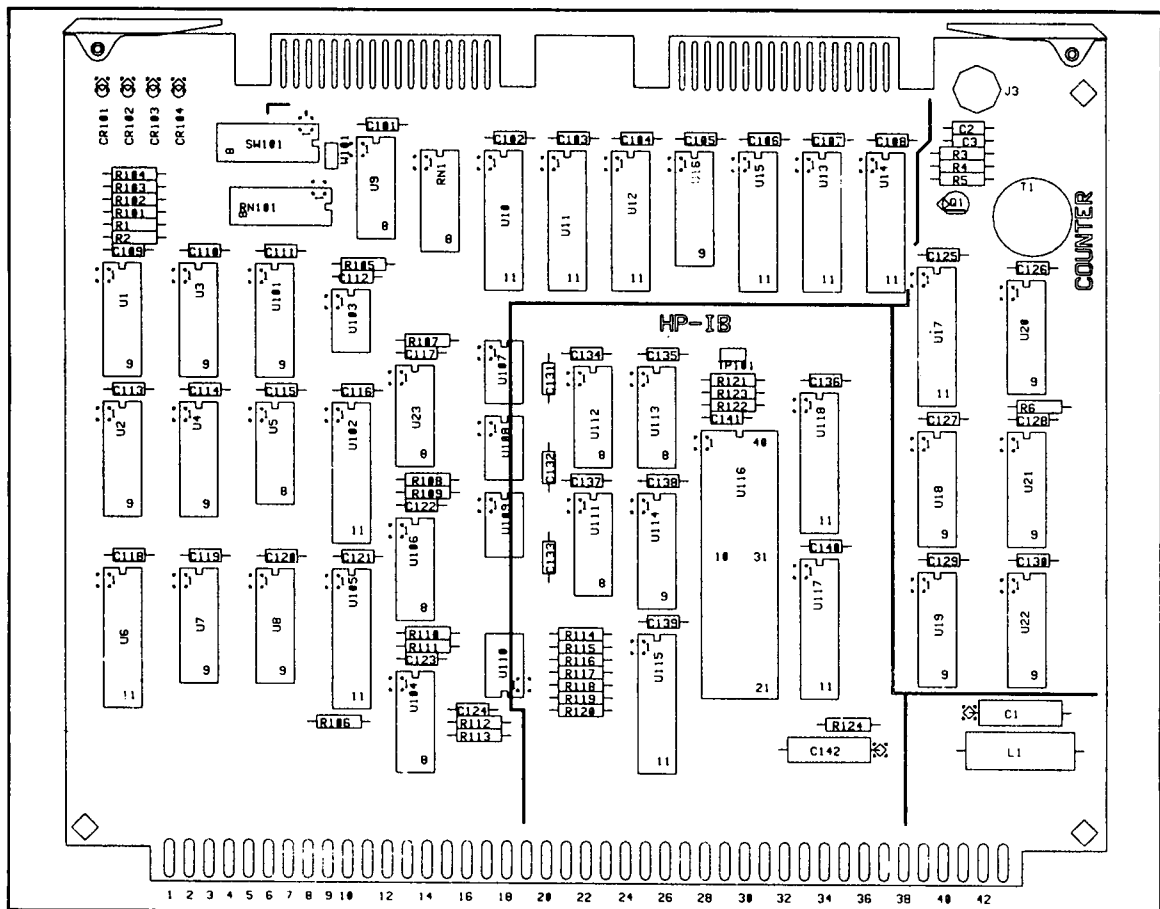

Figure 5-40 Range Down Monitor Point(RNGD)
e. Push the cable completely onto A1J3. check that a display similar to Figure 5-40 is obtained.
The input flatness of the instrument should resemble Figure 5-39 when completely adjusted. The effect of each adjustment is shown in Figure 5-40. Continue adjustment of the instrument flatness until the peak to peak variation of the trace is less than 0.2dB (1 division).